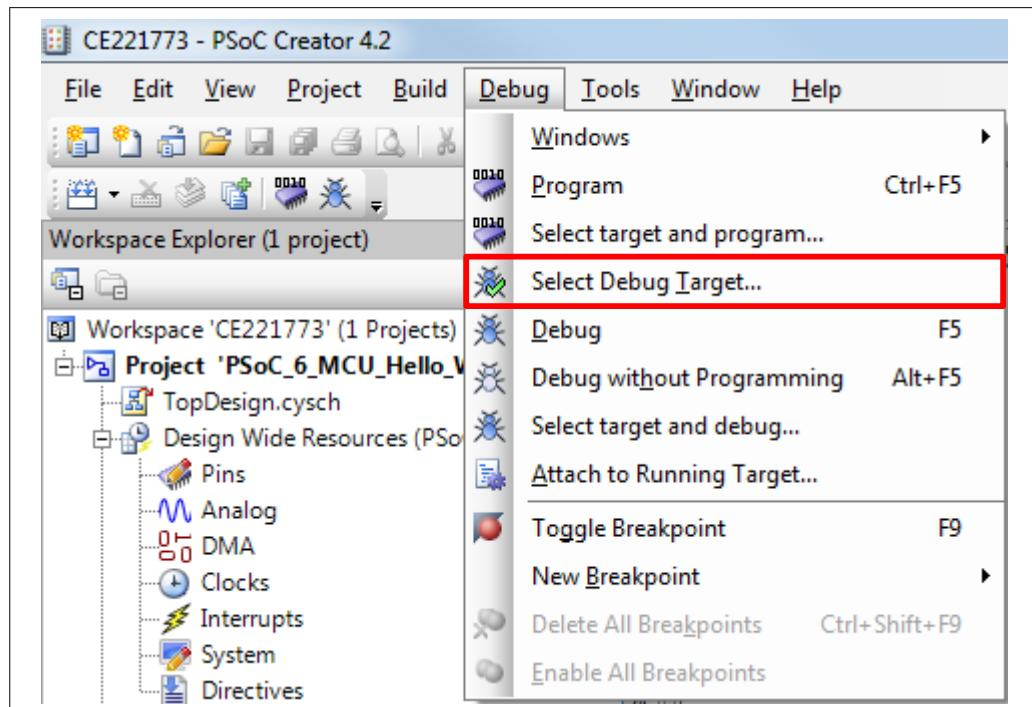

Figure 54
- In PSoC™ Creator, choose **Debug > Select Debug Target**, as Figure 54 shows